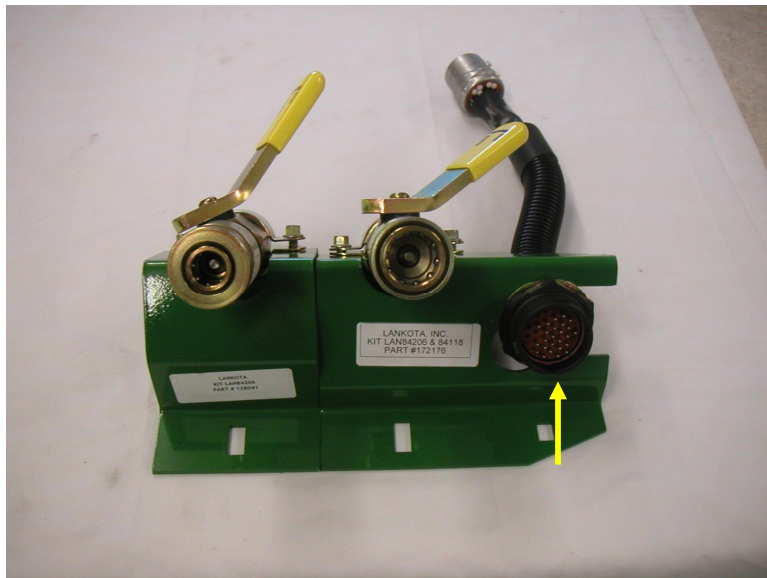

Figure 28
17. Install Electrical Cable (LAN - 209735) into top left Bracket Mount (LAN -172176) and retain with Washer (*LAN - 2414) and plastic Hex Nut (*LAN -2411). *Note the bottom of the electrical cable has a flat spot for the flat side of the bracket. (See Figure 28)